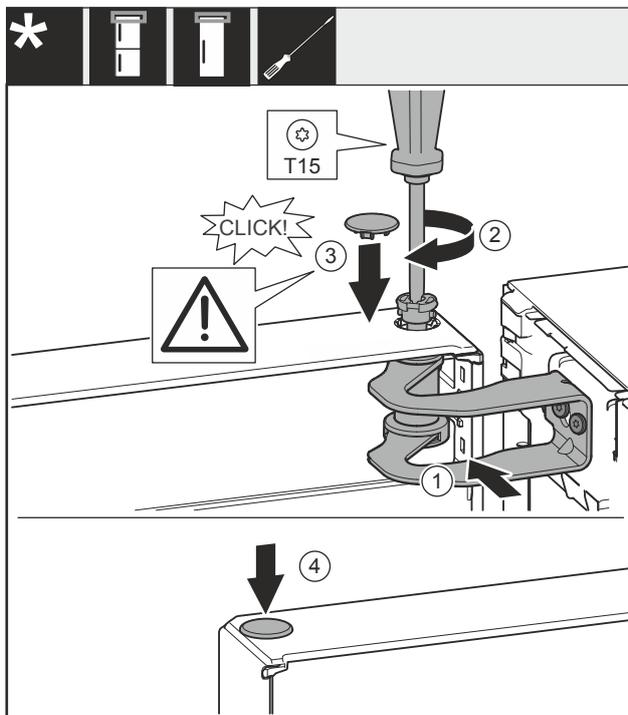

Fig. 59
- ▶ Align the door with the opening in the swap bearing block Fig. 59 (1).
- ▶ Insert the bolt Fig. 59 (2) and use screwdriver to tighten it.
- ▶ Insert the cover Fig. 59 (3).
- ▶ Check that the cover Fig. 59 (3) is resting on the door.
- ▶ Insert the cover Fig. 59 (4).